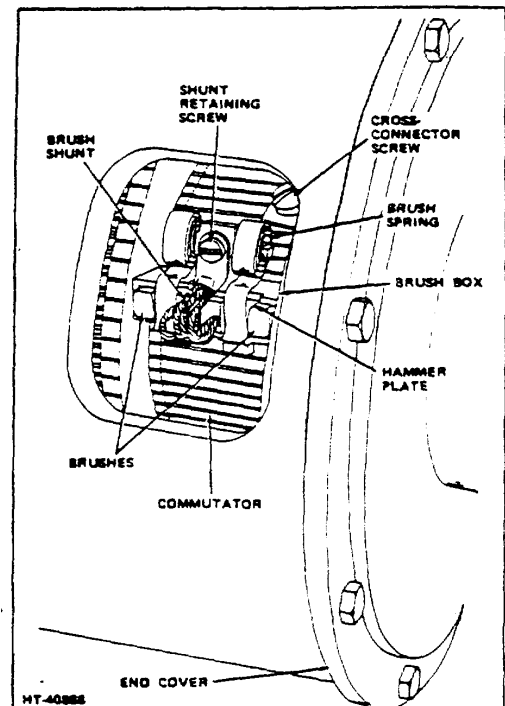

Figure 3-1. Brush Location (Typical)
5. Check brush shunt (Fig 3-1) for good contact with the brush holder. Make certain shunt is not damaged or burned. This may cause pressure spring to carry current and lose tension; good spring pressure is vital to motor operation. (For proper brush spring pressure, refer to preceding Topic 2).